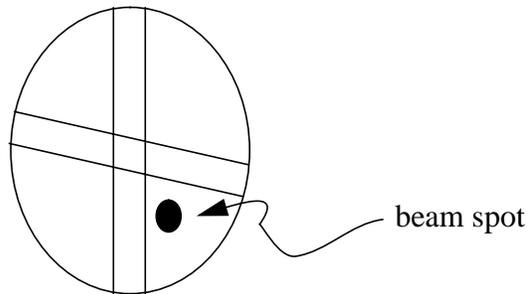

Figure 1: "Sweet spot" on ITV0F02
4. At this point, beam should be low and to the right on viewer ITV0F02 (Figure 1). If not, put it there using MBH0F01H and V.